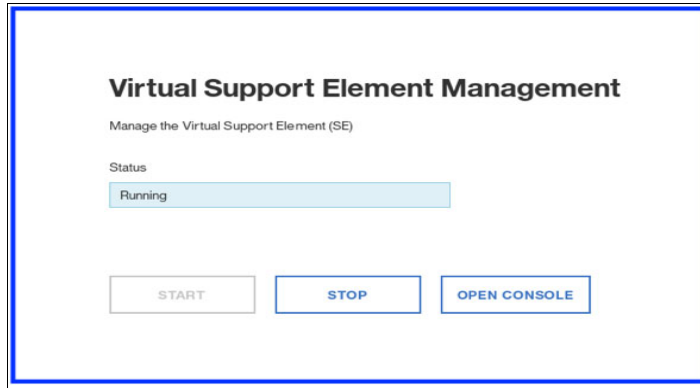

Figure 10-13 Local Virtual Support Element Management
- ▶ The device is intended to be used by the IBM System Service Representative (SSR) only. If remote access to the HMC and SE is not possible, the customer can use the KMM as an emergency option. Local SE can be managed by the Virtual Support Element Management task, as shown in Figure 10-13.